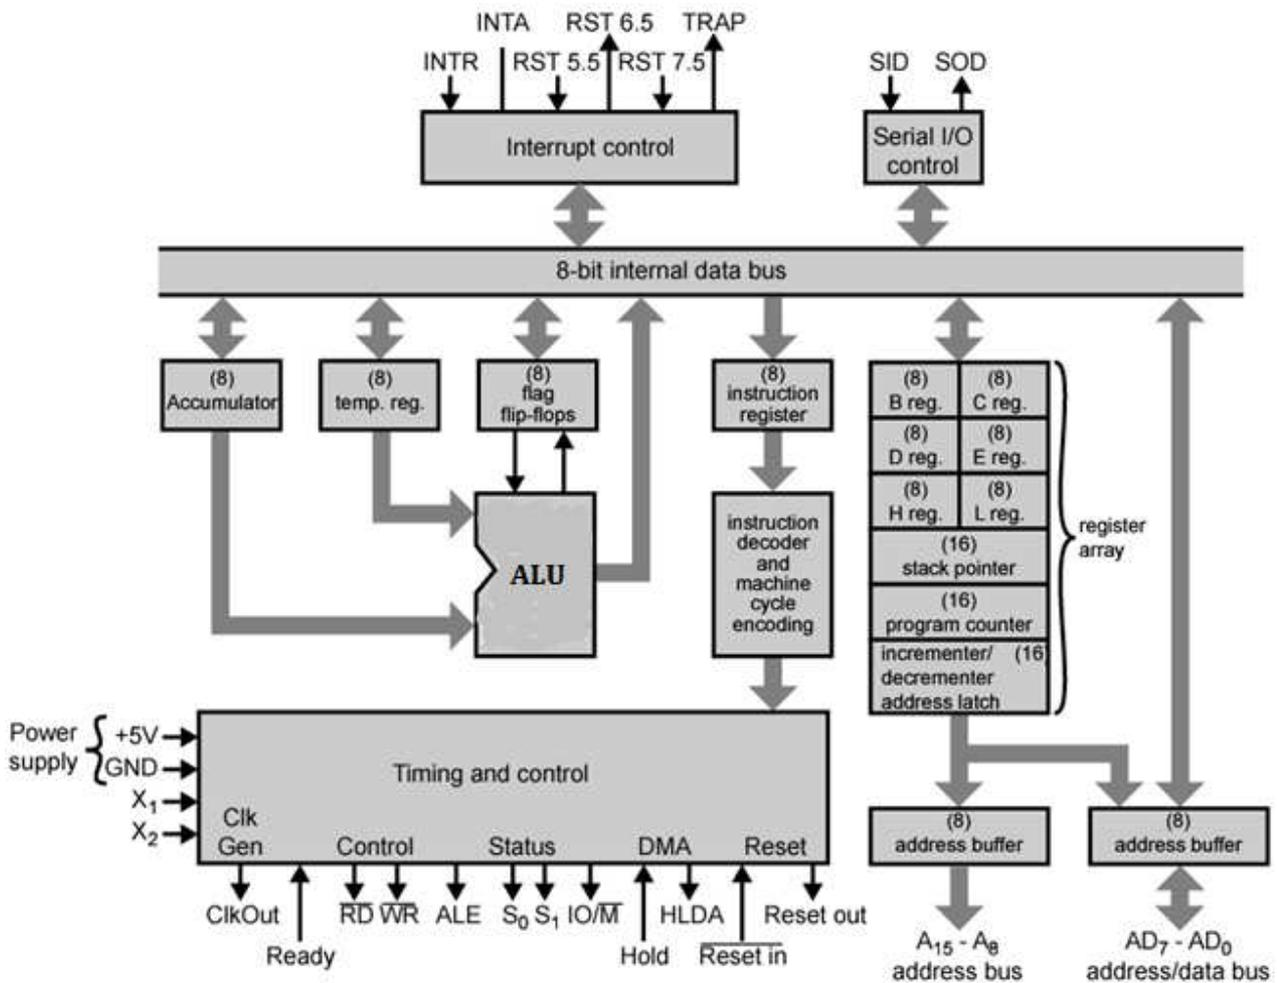

Fig. 1.2 Architecture or Functional Block Diagram of Intel 8085
- ✓ Fig. 1.2 shows the functional block diagram of Intel 8085. It consists of three main sections:
- ✓ Fig 1.2 shows the various registers of Intel 8085 which are used by the microprocessor for temporary storage and manipulation of data and intrsuctions.